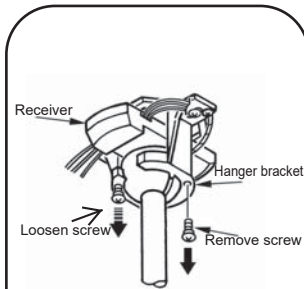

Fig.16
Step 1. Remove 1 of the 2 screws from the bottom of the hanger bracket and loosen the other one half a turn from the screw head. (Fig. 16)